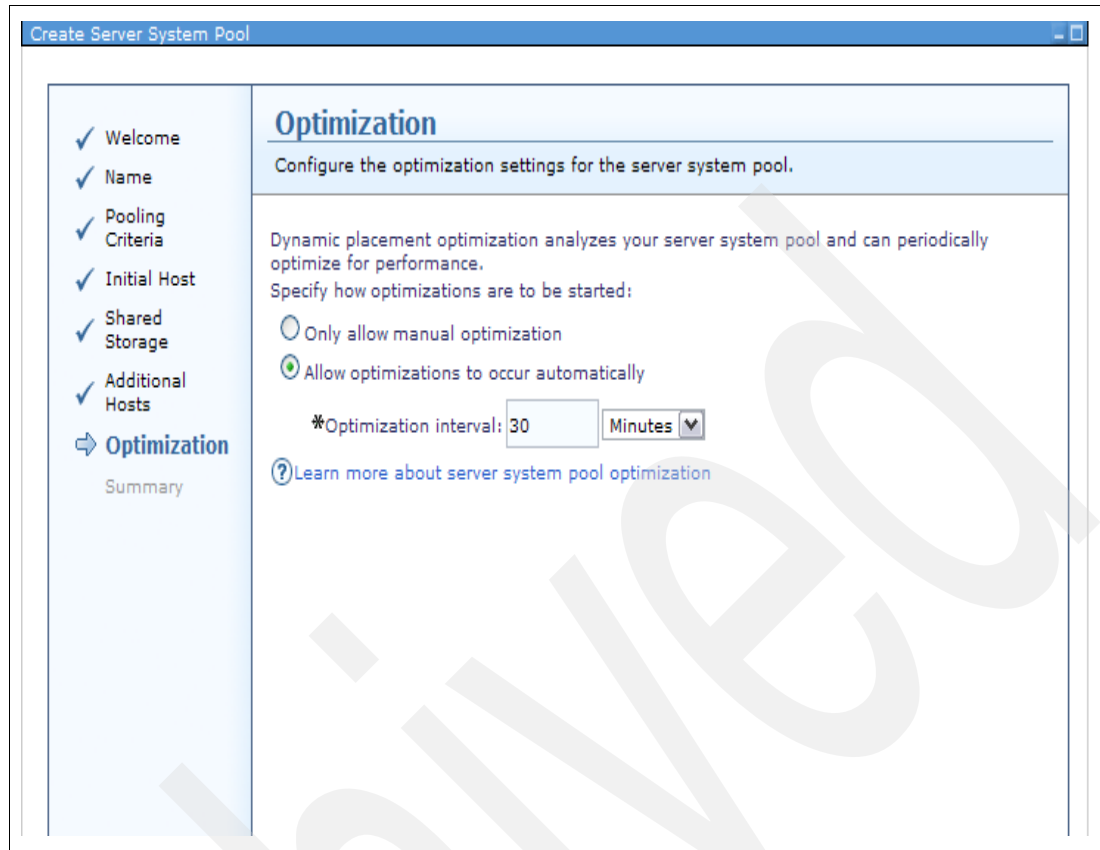

Figure 5-23 Server system pool optimization
5. The optimization function analyzes the server system pool and periodically optimizes for performance. The process can relocate the virtual server to the most efficient host. We provide more details about optimization next. You must select the optimization option while creating the server system pool, as shown in Figure 5-23 on page 183.
Important: The hosts in the server system pool must support the relocation of their virtual servers for workload resiliency, as shown in Figure 5-23 on page 183. The panel for configuring optimization is displayed only if all the hosts in the server system pool support workload resiliency.